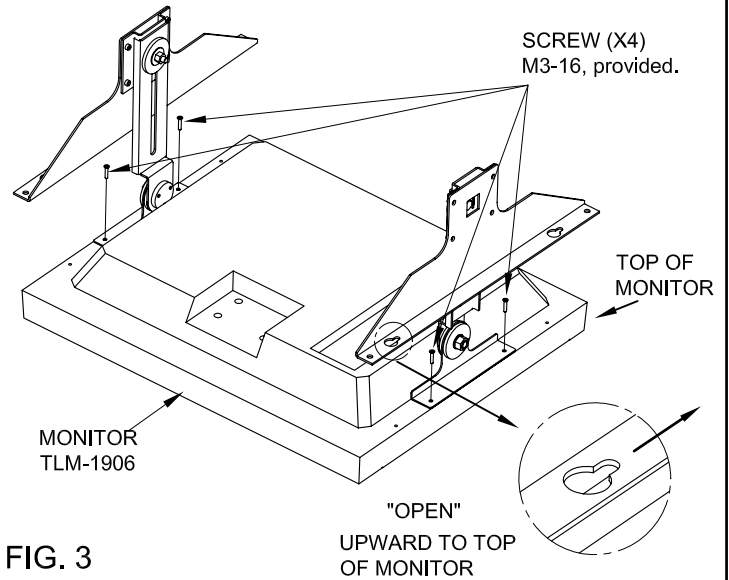

FIG. 3
2. Secure two Mounting Frames on two sides of the monitor by using screws provided (M3-16, self-tap), see FIG. 3.
- \* The "open" for hanging on the Mounting Frame should be upward to top of the monitor, it will be used to hang the monitor on the rack. See FIG 3.